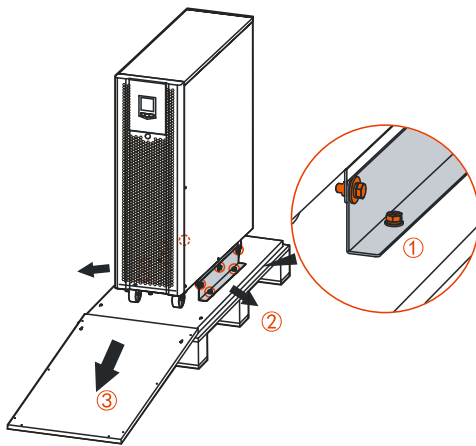
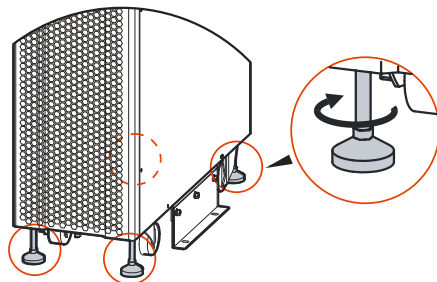

Figure3-4 Bolts position of 10
Figure3-5 Screw up the supporting feet brackets of 30/30S/40/40S
Step 6 After checking, unscrew the bolts that connected with the UPS and wooden bracket and the supporting plate by socket wrench, the bolt position as shown in Figure3-4, remove the supporting plate. Heighten the supporting feet (just for 30/30S/40/40S), as shown in Figure3-5. Then slip the UPS along the oblique board to ground slowly..